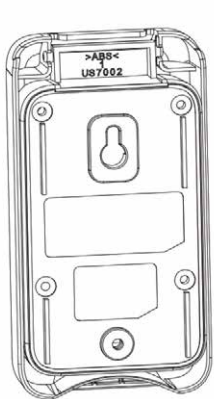

fig 1
Step 1: Make two screw holes on the wall and install top screw. **(fig 1)**